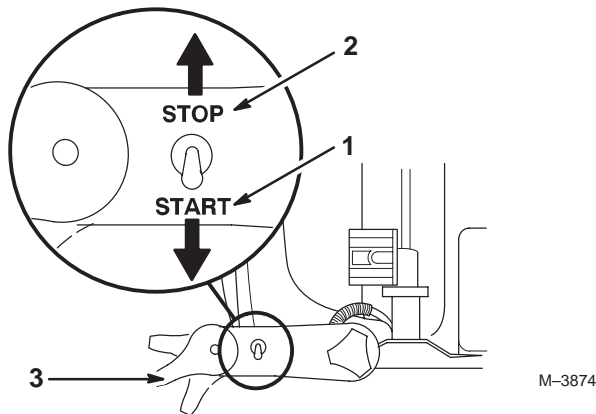

Figure 9
3. Turn the stop switch ON (Fig. 9). (Confirm that the stop switch is in the START position.)
4. Set the throttle lever at 1/2 speed (Fig. 9).
2. To stop the engine, move the throttle control lever all the way downward to the engine idle position. Then move the stop switch to the STOP position (Fig. 9).